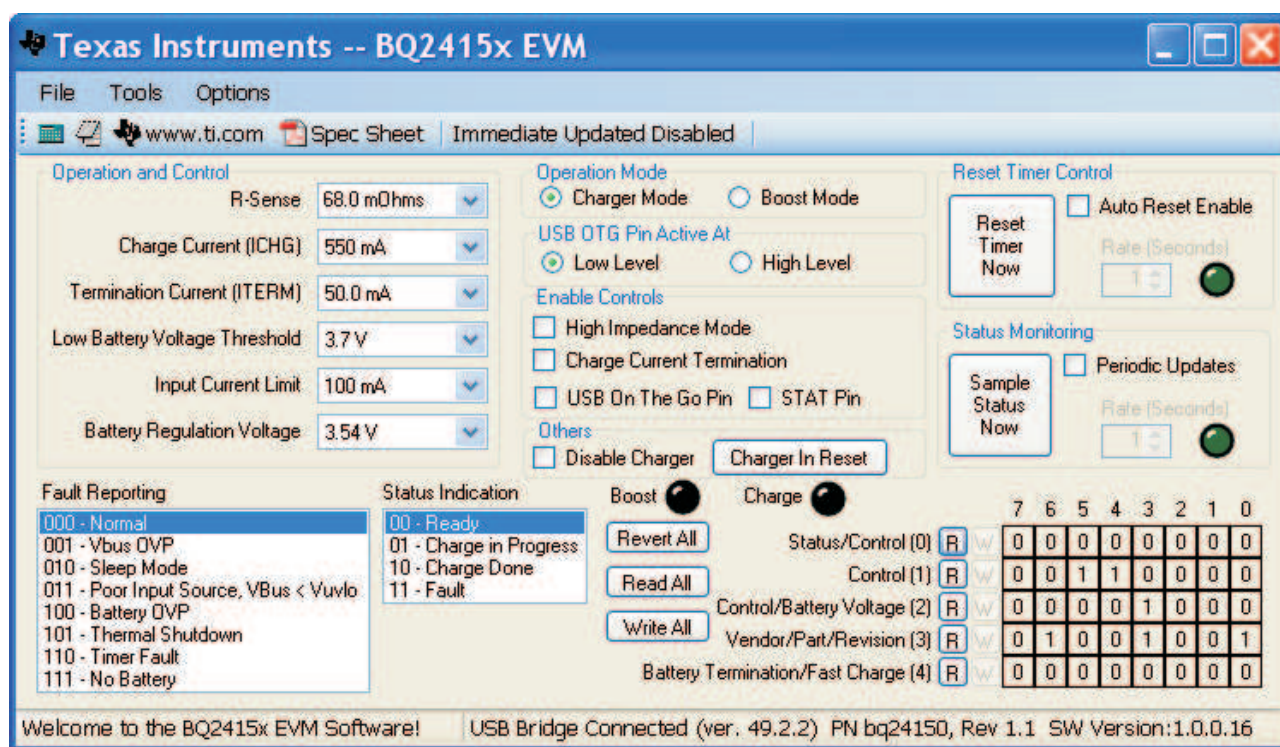

Figure 3. The Main Window of the bq2415x Evaluation Software (For bq24150/150A/151/151A/152)
- Open the bq2415x evaluation software. The main window of the software is shown in Figure 3.